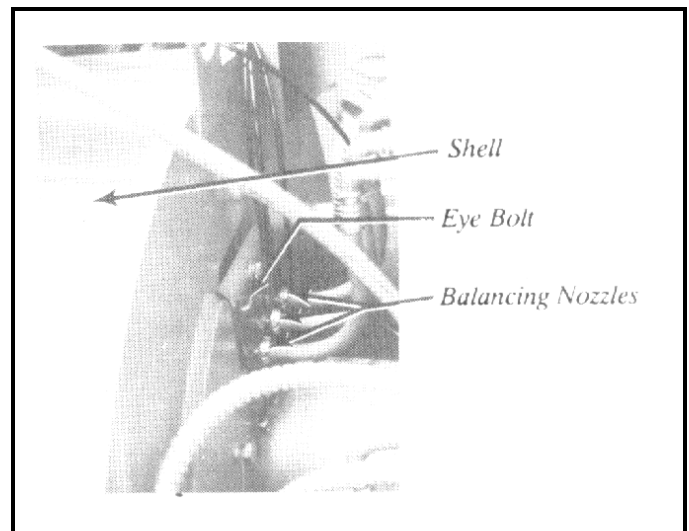

Figure 1 (MSSM0231AE)
4. Tie a wire or string to the inspection plate eye bolt shown in figure 1. This wire will prevent accidental loss of inspection plate into shell. Remove inspection plate bolt and bracket, then remove inspection plate.
5. Note the position of the hoses attached to the balancing nozzles and remove hoses (fig. 1). Loosen nozzle clamps and using the inspection hole, **turn all three nozzle ends downward and pull nozzle tubes back until all nozzles contact the shell.**